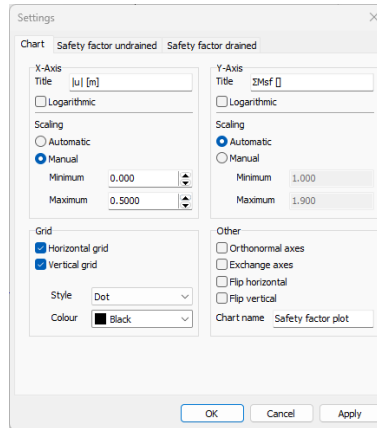

Figure 40: The Chart tabsheet in the Settings window
- In the **Chart** tabsheet shown in Figure 40 (on page 50), set the scaling of the x-axis to **Manual** and set the value of **Maximum** to 0.5: